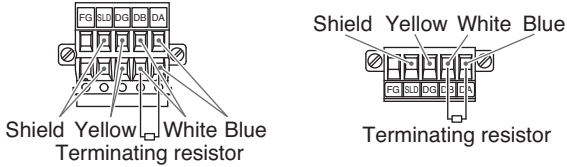

Figure 3
- (3)The terminating resistance to be connected to the CC-Link network depends on the type of cables used. (Refer to the table below. Figure 3)